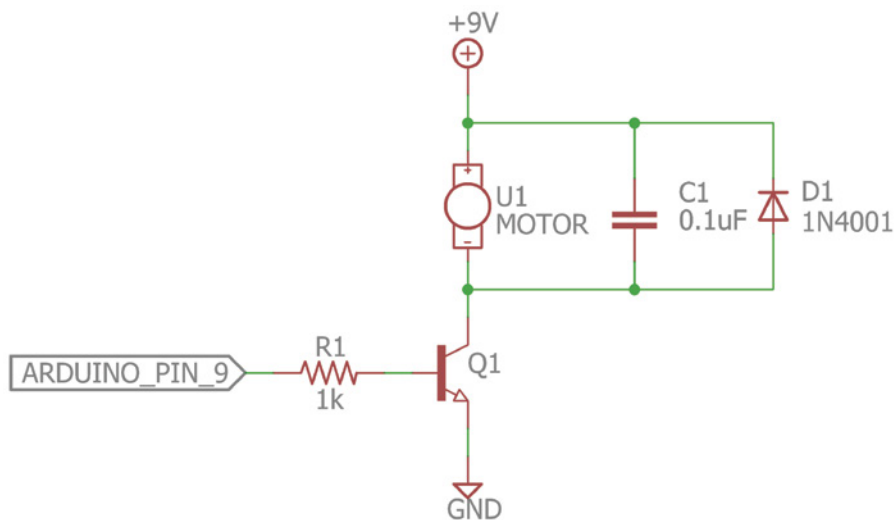
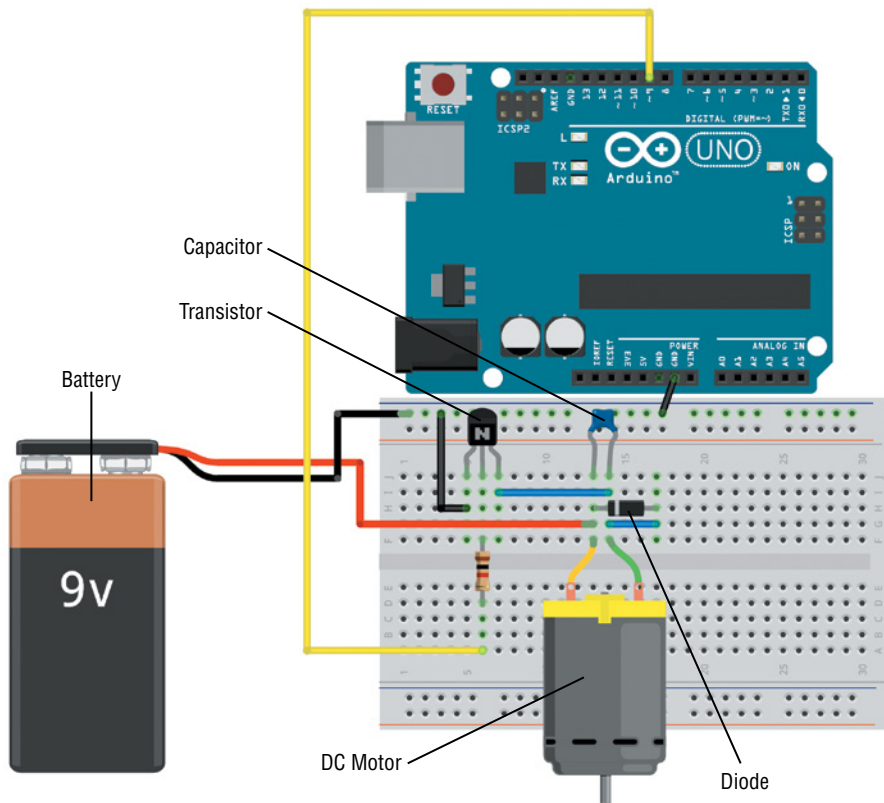

Figure 4-1: DC motor control schematic
Figure 4-3: DC motor wiring
DC motors are available in a variety of voltages and power ratings. First, you’ll experiment with 9V DC motors. Later in this chapter, you’ll use 5V geared motors. DC motors generally require more current than the Arduino’s built-in power supply can provide, and they can create harmful voltage spikes due to their inductive nature. To address this issue, you will first learn how to effectively isolate a DC motor from your Arduino, and then how to power it using a secondary supply. A transistor will allow the Arduino to switch the motor on and off safely, as well as to control the speed using the pulse-width modulation (PWM) techniques that you learned about in Chapter 3, “Interfacing with Analog Sensors.” Refer to the schematic shown in Figure 4-1 as you learn about the various components that go into connecting a DC motor to an Arduino with a secondary power supply. Make sure you understand all of these concepts before you actually start wiring.
Current flows in through the collector and out of the emitter. By modulating the base pin, you can control whether current is permitted to flow. When a sufficiently high voltage and current are applied to the base, the transistor will operate in “saturation mode,” effectively allowing current to flow freely from the collector to the emitter as if flowing through a closed switch. When in saturation mode, the motor, when connected as shown in Figure 4-1, will spin. The 5V generated by the Arduino I/O pins biases the transistor base at a sufficiently high voltage to turn on the transistor.
Note, from the circuit diagram shown in Figure 4-1, that the power supply to the motor is 9V, instead of the usual 5V from the USB connection that you've been using. For the purposes of this experiment, a 9V battery suffices, but you could also use an AC/ DC wall adapter. There are two reasons for using a power source separate from the Arduino's built-in 5V supply:
Now that you understand the intricacies of controlling a brushed DC motor, it's time to get it wired up on your breadboard. Try to wire it by only referencing the schematic shown in Figure 4-1. After you've tried to assemble the circuit using only the schematic, reference the graphical version shown in Figure 4-3 to confirm that you wired it correctly.
1. Make sure that you've connected the ground from your 9V battery to the ground from your Arduino. You might want to use the horizontal bus on the breadboard to accomplish this, as shown in Figure 4-3.